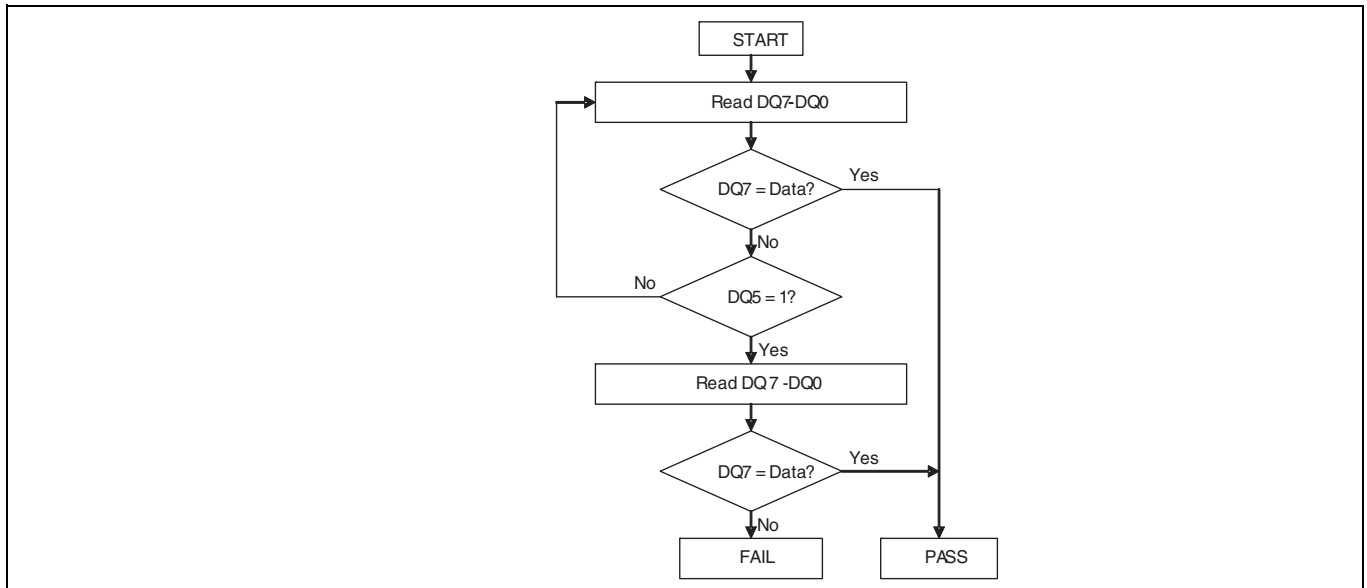
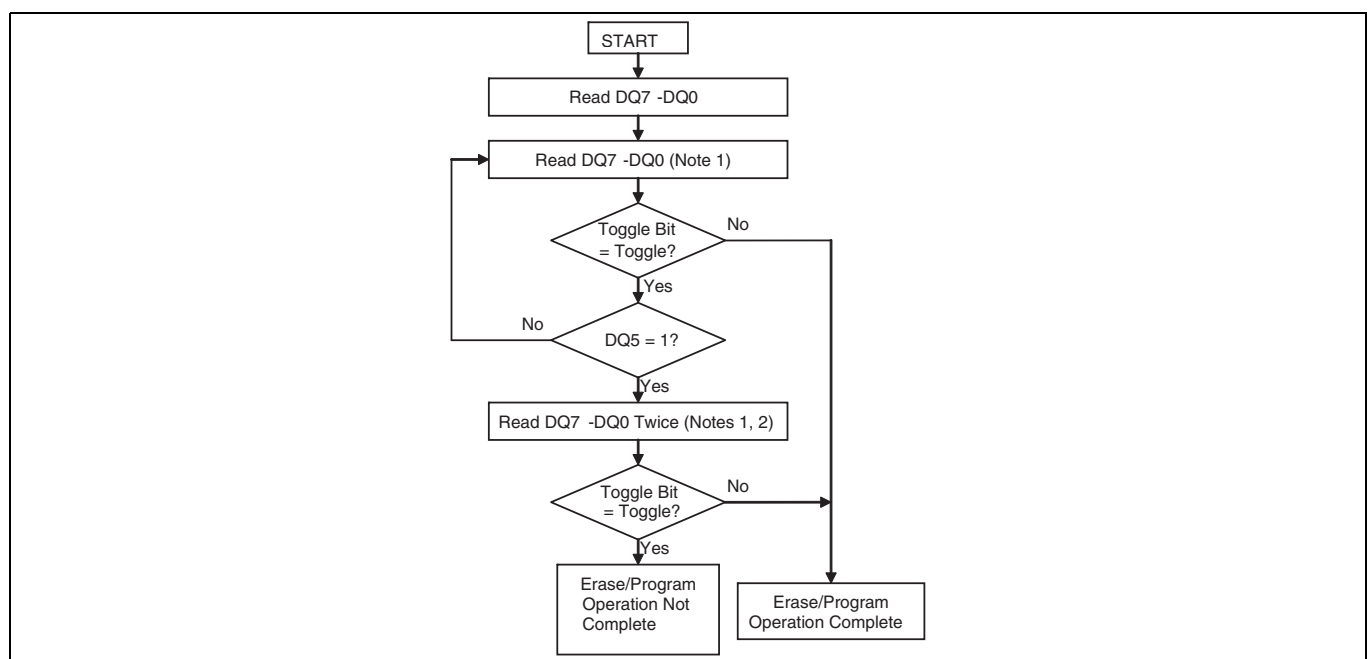

**Figure 7** Data# polling algorithm[23]
**Figure 8** Toggle Bit program[24, 25]
**Table 17** shows the outputs for Toggle Bit I on DQ6. **Figure 8** shows the toggle bit algorithm in flowchart form, and the **“Reading Toggle Bits DQ6/DQ2”** on page 48 explains the algorithm. **Figure 8** shows the toggle bit timing diagrams. See also **“DQ2: Toggle Bit II”** on page 47.
DQ2 toggles when the system reads at addresses within the sector selected for erasure (or all sectors selected for erase operation during multi-sector erase). (The system may use either OE# or CE# to control the read cycles). But DQ2 cannot distinguish whether the sector is actively erasing or is erase-suspended. DQ6, by comparison, indicates whether the device is actively erasing, or is in erase suspend, but cannot distinguish if the sector is selected for erasure. Thus, both status bits are required for sector and mode information. Refer to **Table 17** to compare outputs for DQ2 and DQ6. **Figure 7** shows the toggle bit algorithm in flowchart form, and the **“Reading Toggle Bits DQ6/DQ2”** on page 48 explains the algorithm. See also **Figure 8** shows the toggle bit timing diagram.
Refer to Figure 7 for the following discussion. Whenever the system initially begins reading toggle bit status, it must read DQ7–DQ0 at least twice in a row to determine whether a toggle bit is toggling. Typically, the system would note and store the value of the toggle bit after the first read. After the second read, the system would compare the new value of the toggle bit with the previous value. If the toggle bit is not toggling, the device has completed the program or erases operation. The system can read array data on DQ15–DQ0 (DQ7–DQ0 in ×8 mode) on the following read cycle.
The remaining scenario is that the system initially determines that the toggle bit is toggling and DQ5 has not gone HIGH. The system may continue to monitor the toggle bit and DQ5 through successive read cycles, determining the status as described in the previous paragraph. Alternatively, it may choose to perform other system tasks. In this case, the system must start at the beginning of the algorithm when it returns to determine the status of the operation (operation as shown in Figure 8).